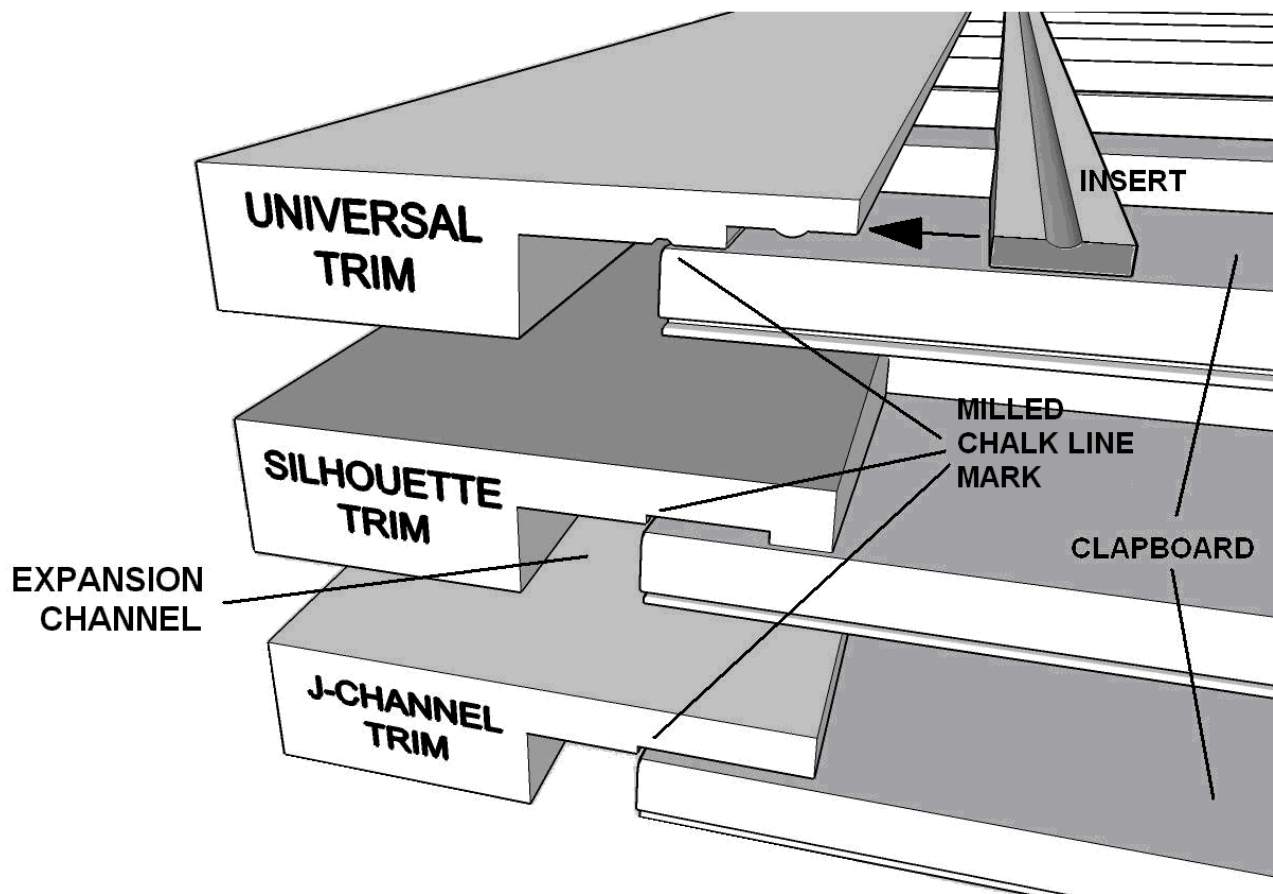

Fig. 3
8. *Do not nail through trimboard expansion channel (Fig. 3).*
The milled chalk line mark (refer to Fig. 3) provides a position reference for the clapboard ends behind the trim. This clapboard position, relative to the trim, allows movement in both directions to accommodate clapboard expansion and contraction.
Do not nail through trimboard expansion channel (refer to Fig. 3).
If the clapboard course that extends over the window or door must be notched, the ends of the notch must line up with the milled chalk line mark (refer to Fig. 3) in the NuCedar trim.
NuCedar Universal or J-Channel Trim may be used for trimming of gable rakes. Utilize the milled chalk line mark (refer to Fig.3) as a cutting guide for all angle cuts on the clapboard ends within gable rake areas.